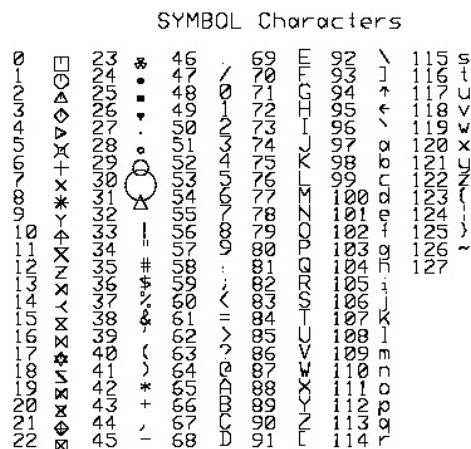

Figure 3.1: SYMBOL characters for each numerical byte supported. Plot produced by example program c/examples/symbols.c.
a reference point on the lower left edge of the character. Hence, $i=-1$ should be used for centered plot symbols 0 thru 16. The number of characters in the input string which should be plotted can be specified. If an ASCII null (0) is encountered in the string beyond the first position, the routine terminates. Examples are the symbols produced by SYMBOL are shown in Fig. 3.1.